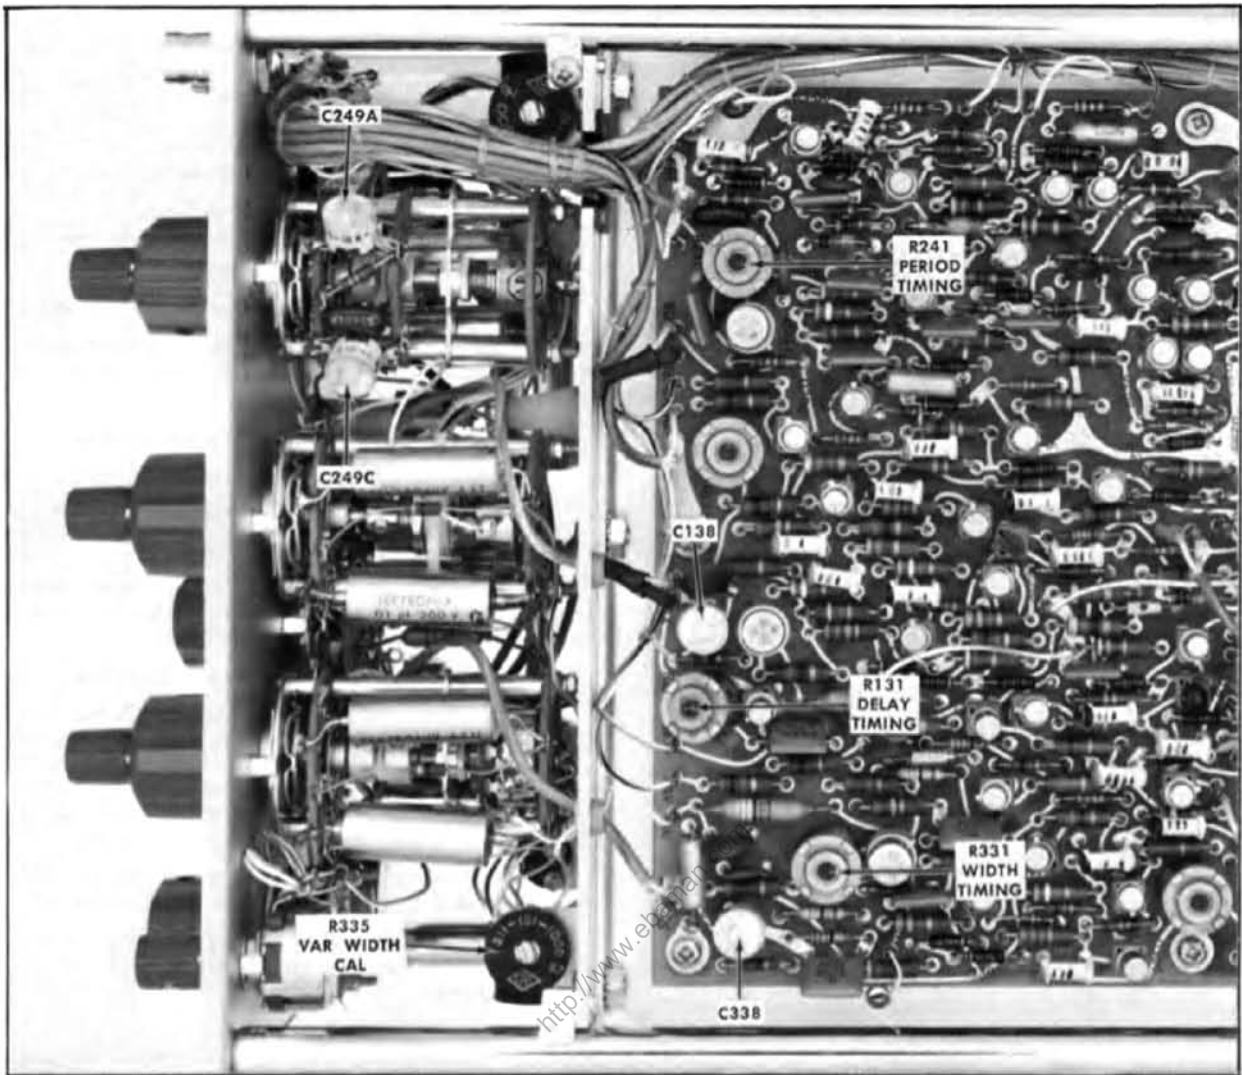
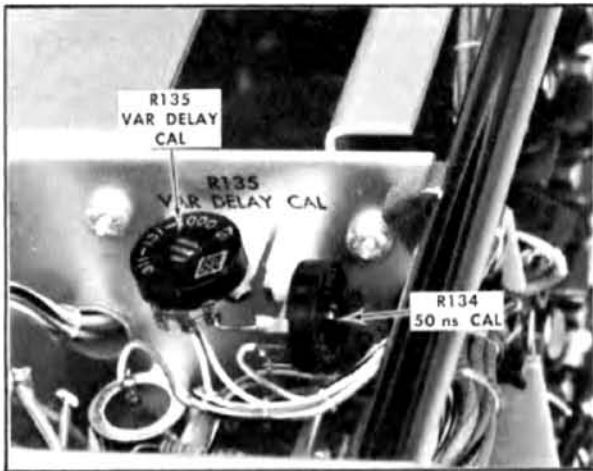

Fig. 5-19. Top circuit board: Location of adjustments used in steps 21 through 25.
Fig. 5-21. Location of delay timing adjustments on the left side of the Type 115 chassis subpanel.
- g. ADJUST—R331, WIDTH TIMING adjustment, (see Fig. 5-19) for a pulse width of 550 μ s (5.5 cm) if the display is not correct.
- l. ADJUST—R335, VAR WIDTH CAL adjustment, (see Fig. 5-19) if the display is not correct.
- s. ADJUST—C338 (see Fig. 5-19) if the display is not correct.
- f. ADJUST—R131, DELAY TIMING adjustment, (see Fig. 5-19) for a delay interval of 550 μ s (5.5 cm) if the display is not correct.
- k. ADJUST—R135, VAR DELAY CAL adjustment, (see Fig. 5-21) if the delay interval is not correct.
- v. ADJUST—R134, 50 ns CAL adjustment, (see Fig. 5-21) and C138 (see Fig. 5-19) if the display is not correct.